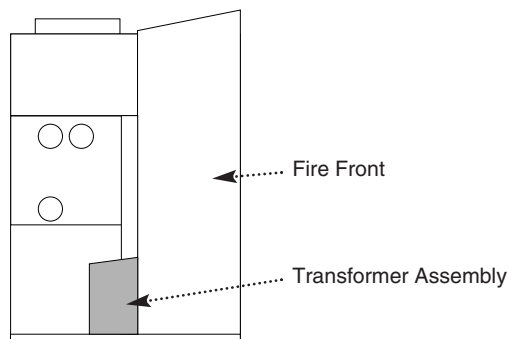

Fig. 18
**NOTE:** When connections are on the left, ensure that the injector tee does not encroach on the shaded area (Fig. 18). This area is required for the firefront transformer assembly.